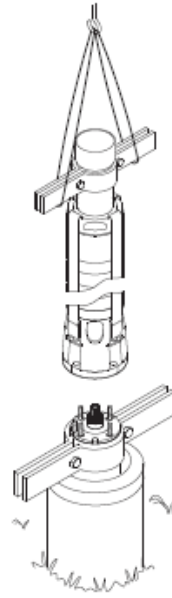

Fig. 3: Lifting the pump into correct position
- Lift the pump part using the pipe clamps attached to the extension tube, see Fig 3.